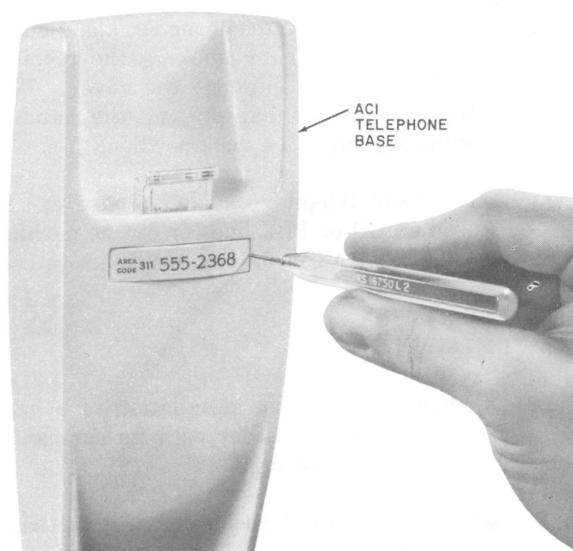

Fig. 5—Removing Number Card Retainer
- 3.02** The plastic housings of the AC1 and AD1 bases are secured by captive housing screws located behind the number card and number card retainer. To remove the housing from either base assembly use a KS-16750 type release or equivalent to remove the number card retainer (Fig. 5). ***Be careful no to damage the housing.*** Loosen the two captive screws, which are now exposed, and lift the housing off.